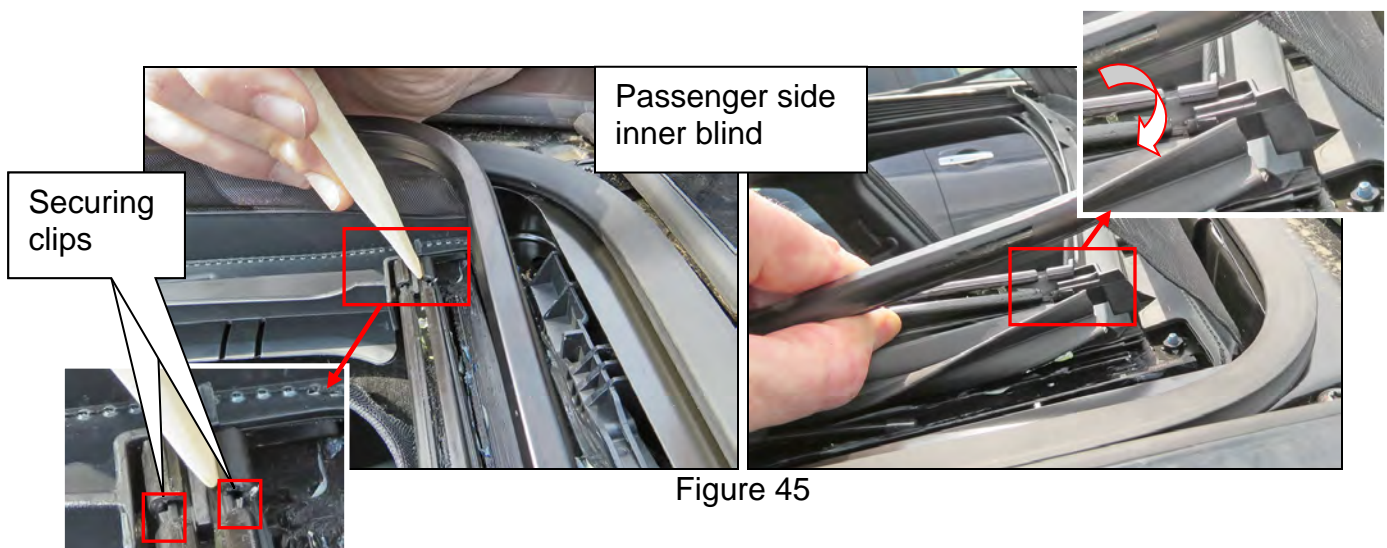

Figure 45
4. Remove the left and right inner blinds (Figure 45).